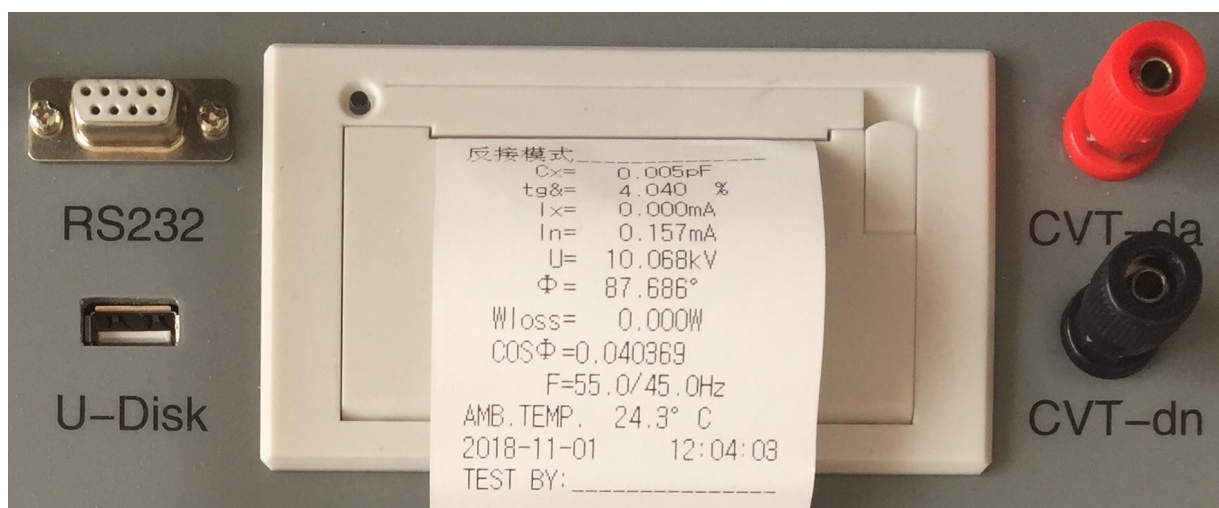

Fig 20 Data Print Chart
2) Test data printing. After the test is finished, under the test result interface, the test data will be printed by clicking the "Print" button with a touch-screen pen or finger. Figure 20 Data Print Chart